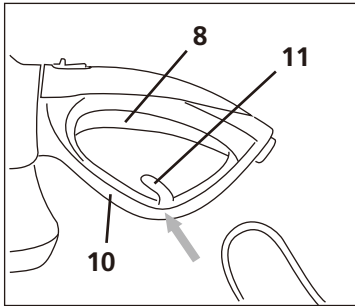

Fig 4
**WARNING!** For safety reasons the product is equipped with a short power cord (9). Do not connect the product to the power supply via this power cord. A suitable extension cord is required for operation. Observe the technical requirements for this product when purchasing an extension cord.
1. Make sure the on/off switch (8) is in its off position.
2. Double the extension cord, about a foot from the end. Lead the loop through the hole on the rear safe guard (10) and hook the loop over the cord strain relief (11) (Figs. 4, 5). Gently pull on the cord to ensure that it is firmly attached.